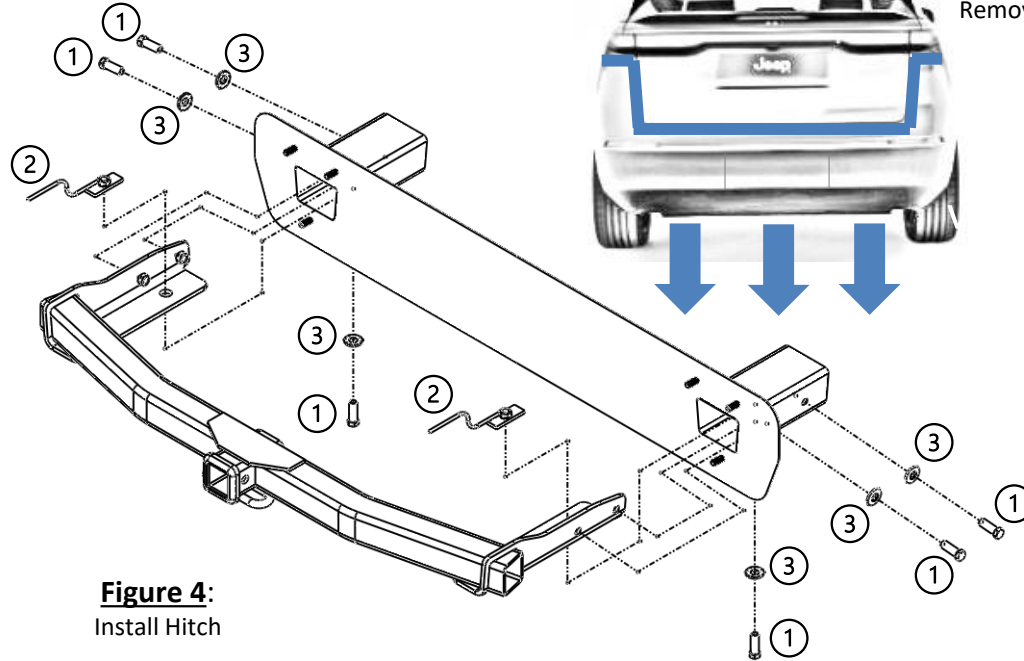

Figure 4:
- 5. Install Hitch:** Insert side brackets into end of frame (figure 4), then line up the block assembly with the larger hole on each bracket inside the frame. Hand start (6) M12 bolts.